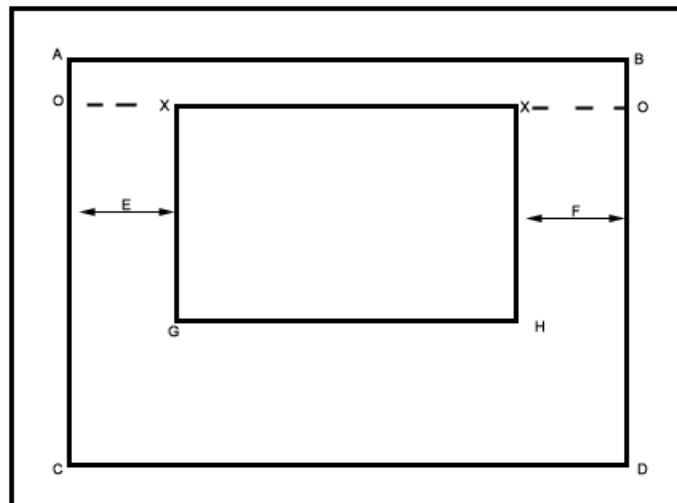

Figure 051-236-1162-1
- (1) Use a sledge hammer to sink corner stakes or batter board posts. In some soils, a posthole auger may be necessary.
- (2) Use a handsaw to cut stock for batter boards and posts.
- (3) Sharpen stakes and posts with an ax or hatchet.
- (4) Use a hammer and nails to construct batter boards.
- (5) Use a carpenter's level to determine level surfaces and sight level lines.
- (6) Use a level to level string lines.
- (7) Use a plumb bob to locate the corners of the building's dimensions.
- (8) Use string line to distinguish the dimensions of the building.
- (9) Use a tape measure for measuring diagonal measurements and for laying out excavation or foundation lines.
- (10) Use a framing square to ensure that the lines are square.
- b. Lay out and prepare a rectangular building site (Figure 051-236-1162-1).